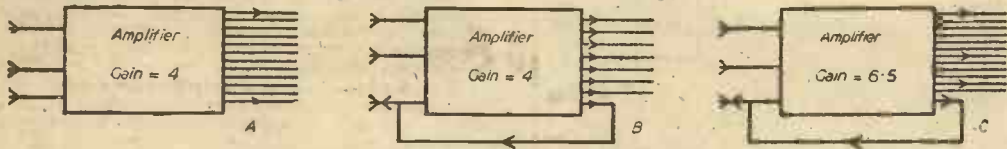

Fig. 1.—A simple block diagram to show the effect on gain.
Consider the simple block diagram of Fig. 1 (A). If the input to the amplifier can be represented by three lines and the output by 12, then the gain of the amplifier must be four. If a small amount—say one line—is fed back from the output to oppose the input as in Fig. 1 (B),
Should we require the output to be 12 lines as it was in the first case, the gain of the amplifier will have to be increased to six and a half, as the total output is 12 plus one which is fed back making a total output of 13; as the effective input is two, the gain of the amplifier will have to be six and a half. This is shown by Fig. 1 (C). The total stage gain being four as in the very first case, as the total input is three lines and effective output 12.